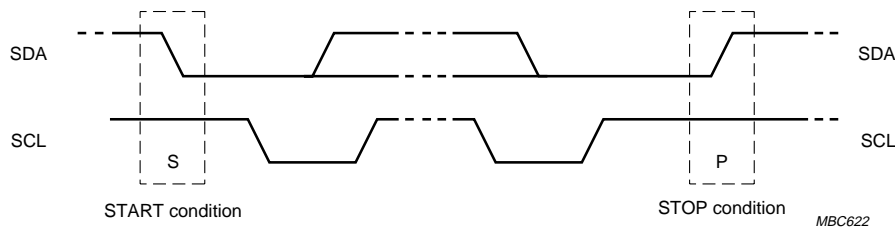

Fig 9. Definition of start and stop conditions.
Both data and clock lines remain HIGH when the bus is not busy. A HIGH-to-LOW transition of the data line, while the clock is HIGH is defined as the START condition (S). A LOW-to-HIGH transition of the data line while the clock is HIGH is defined as the STOP condition (P); see Figure 9.